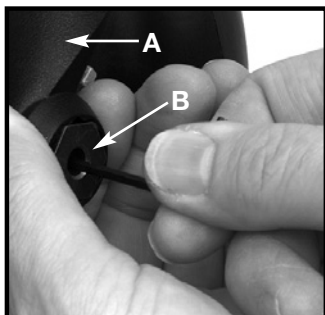
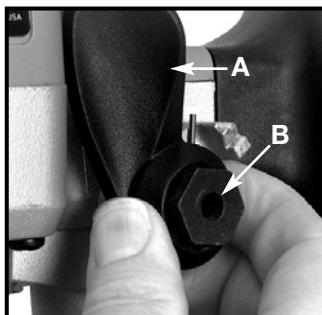
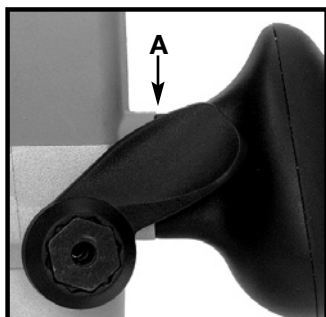
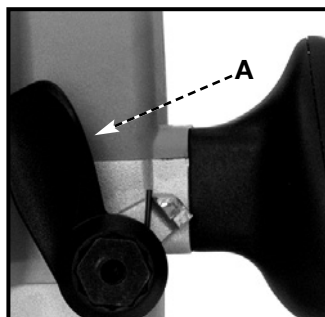

Fig. 16
Fig. 17
Fig. 18
Fig. 19
1. Lock the plunge locking lever, (A) Fig. 17, by moving it to the operator's right as far as it will go.
2. Push in on the plunge locking lever (A) Fig. 17.
3. Move the plunge locking lever (A) Fig. 17 to the desired location and allow it to spring back into position.
1. Hold the plunge-locking lever (A) Fig. 16.
2. Insert $\frac{3}{32}$ " hex wrench (not furnished) through the center of the plunge locking bolt (B) Fig. 16 into the adjustment screw, and turn counterclockwise approximately one turn.
3. Push in on the plunge-locking lever (A) Fig. 17 to expose the head of plunge-locking bolt (B) Fig. 17.
4. While holding plunge-locking lever in (A) Fig. 17, turn plunge-locking bolt (B) Fig. 17 clockwise to turn the plunge-locking bolt in or counterclockwise to turn the plunge-locking bolt out. Turn it one position at a time until proper adjustment is achieved. Proper adjustment is indicated when the plunge- locking lever (A) Figs. 18 and 19 can be locked into the free motion position (Fig. 18), and into the plunge-locked position (Fig. 19).
5. Move plunge locking lever (A) Figs. 18 and 19 to the center of those 2 positions. Insert the allen wrench through the center of the plunge locking bolt (B) Fig. 16 into adjustment screw. Turn clockwise to tighten.